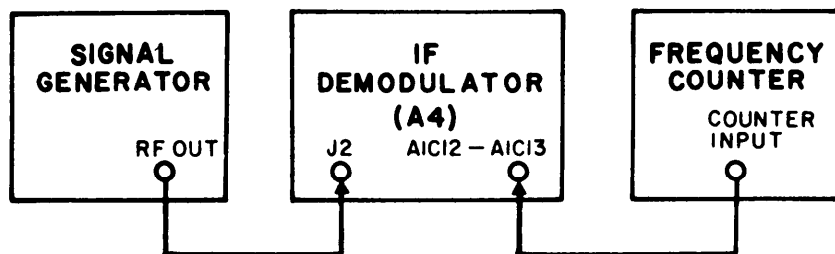

Figure 4-10. Test Setup, 21.4/10 MHz Converter Subassembly (A4A1) Alignment
- (1) Construct the circuit as shown in Figure 4-10.
- (2) Using the card extender, extend card A4A1 (21.4/10 MHz Converter).
- (3) Select the Band Switch on the receiver's front panel to HIGH.
- (4) Connect Frequency Counter to junction of capacitors C10-C11.
- (5) Connect the Signal Generator to J2 on A4.
- (6) Set the Signal Generator for an output frequency of 21.4 MHz. Set level to -10 dBm.
- (7) Adjust variable capacitor A1C13 for a counter reading of 31.4 MHz.
- (8) Connect counter to output of board and check that the frequency is 10 MHz \pm 100 Hz.